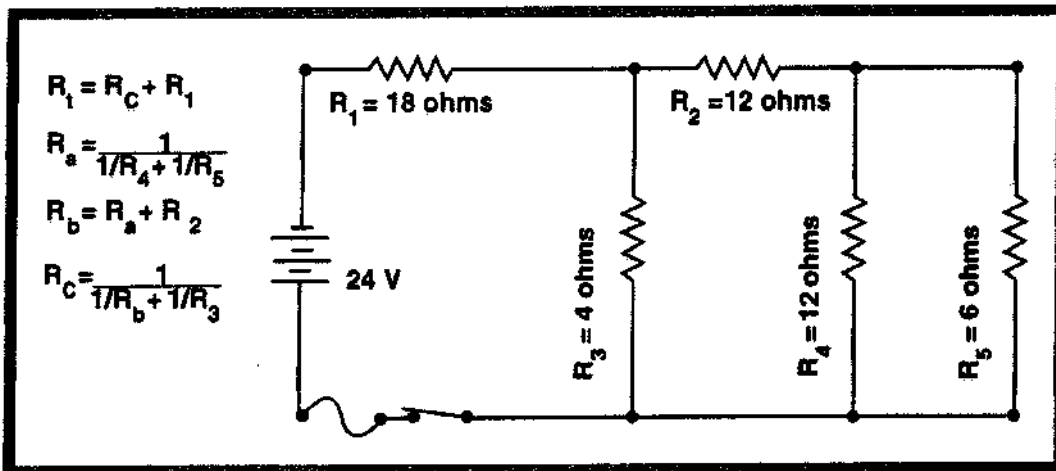

Fig. 9.10. Circuit Diagram.
36. (Refer to figure 9.10) Find the total resistance of the circuit.